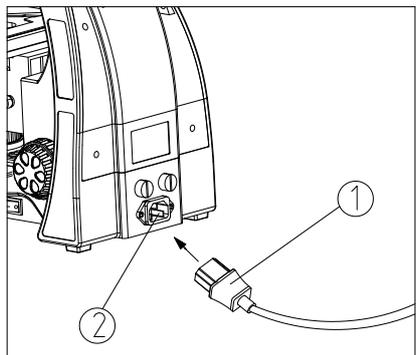

Fig. 6
2. Insert the connector ① of power cord into the power socket ②, and make sure it well (see Fig. 6).